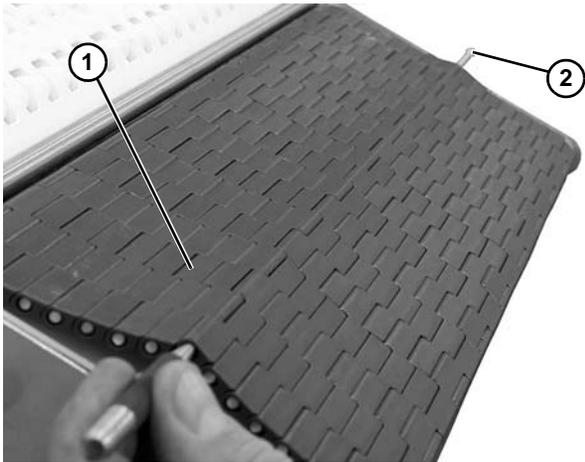

Figure 58
6. Lift slightly on belt (**Figure 58, item 1**) and push pin (**Figure 58, item 2**) out of belt.